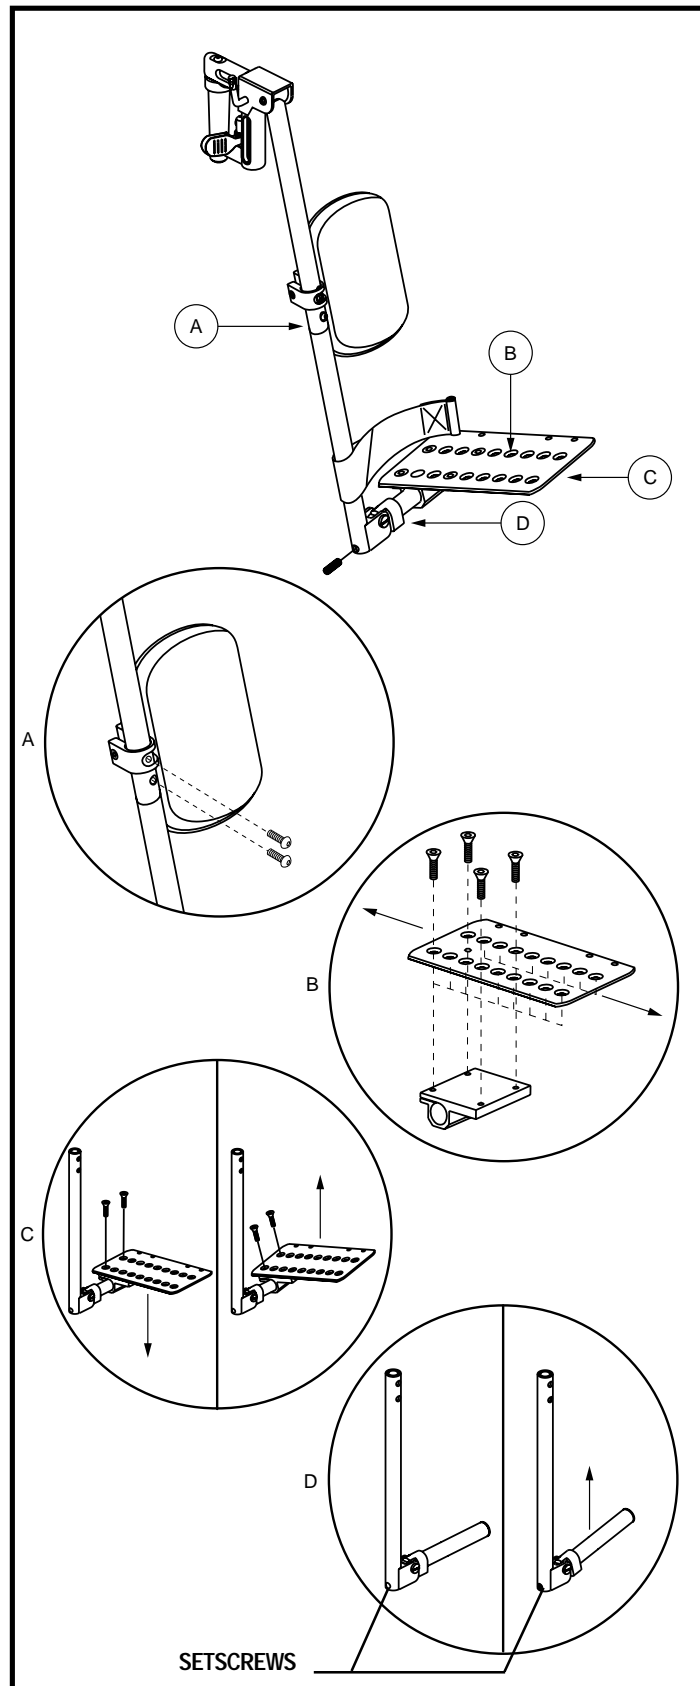

Figure 21. Multi-Axis Foot Plates (ELR Shown)
The multi-axis foot plate assembly can be installed on either a swing-away footrest or an elevating leg rest. The multi-axis foot plate has four adjustments: leg rest length (A), position (B), tilt (C), and angle (D). See figure 21.